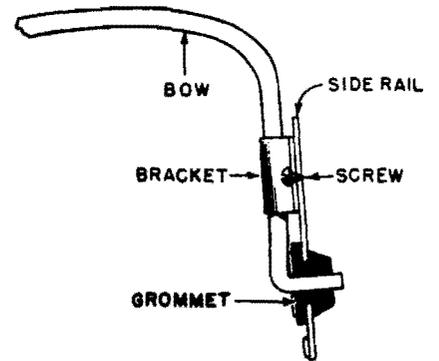

FIG. 3
7. Attach the bracket to the side rail with suitable sheet metal screws as shown in Figure 3.